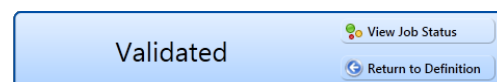

Figure 10-10. Validated Message
- 14** To validate the definition, click the  **Prevalidate** button. When the validation process completes and the following message displays (Figure 10-10), click  **View Job Status** to open the *Job Status* window or  **Return to Definition** to open the *Definitions* window.